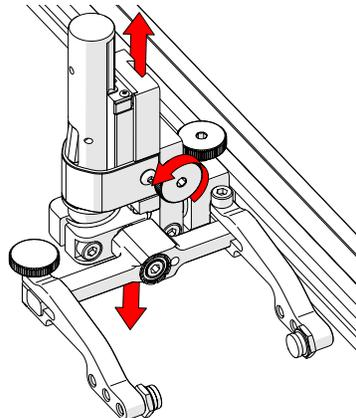

Fig. 75 - Vertical adjustment
2. The vertical adjustment knob allows the vertical probe holder height adjustment (Fig. 75).